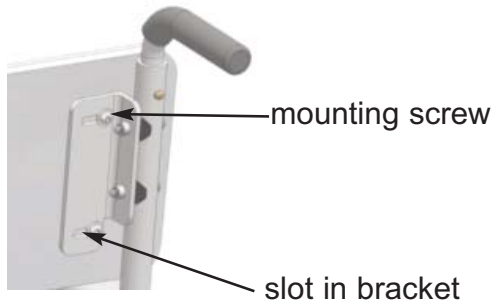

Figure 6
**E** Turn the chair right side up and install the backrest assembly. Slide the two backposts into the back of the seat frame and tighten the two socket head cap screws using the 1/4" Allen wrench also tighten the four button head capscrews that attach the back cushion to the back posts (Refer to Figures 4 & 5). For details on the 20" frames (Refer to Figure 6).